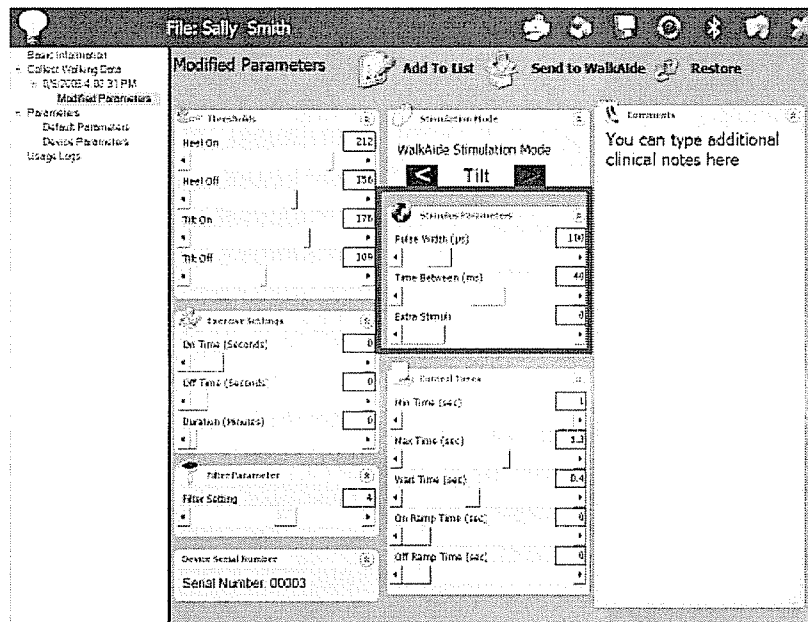

Figure 28 – Stimulus Parameters.
4. Stimulus Parameters – These adjust the characteristics of the stimuli within the pulse train (Figure 28).